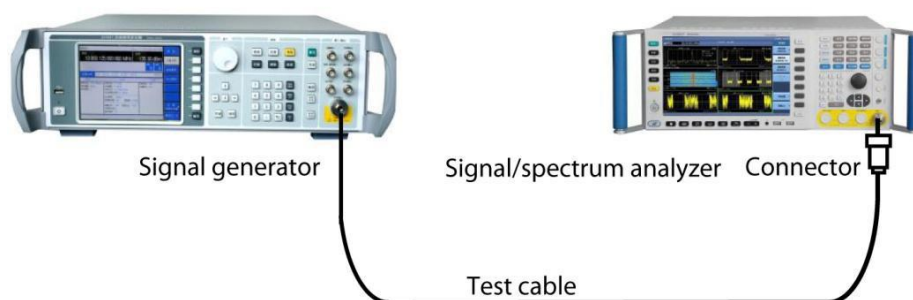

Fig. 4.74 Connection Settings of Burst Power Measurements
Step 2: Connect the radio frequency output port of the signal source to that of the analyzer. As shown in Fig. 4.74: